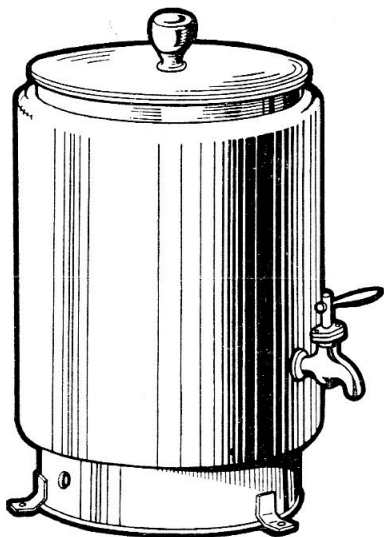
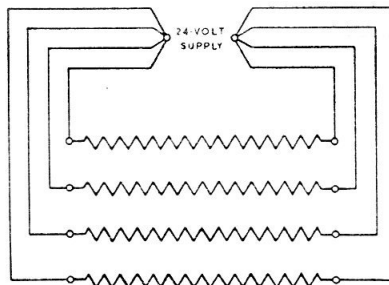

Fig. 1. General view of urn
Fig. 2. Circuit diagram
2. A general view of the urn is shown in fig. 1. It is made of copper, tinned internally and nickel-plated externally. The body and lid are encased in $\frac{3}{4}$ in. thick lagging and an overall canvas cover. A splash ring is fitted inside the top of the body, and the urn is mounted on three lugs, equally spaced round the base. Heat is supplied by four 250-watt strip elements, each 6 in. long, connected as shown in fig. 2. The elements are not of